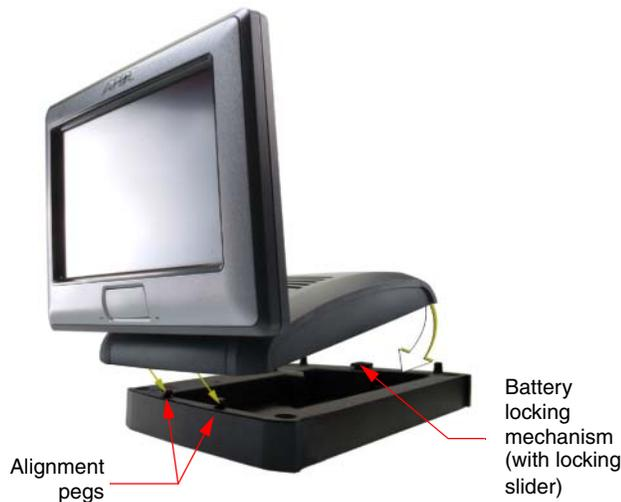

FIG. 27 NXA-BASE/1 shown aligning with NXT-CV7 panel
- Carefully angle the NXT-CV7 panel over the front alignment pegs (FIG. 27). The pegs assist in both aligning and securing the panel to the base (the locking mechanism secures the base to panel when done).
- Verify the alignment of the Panel Interface connectors between the panel (female connector) and base (male connector) (FIG. 27).